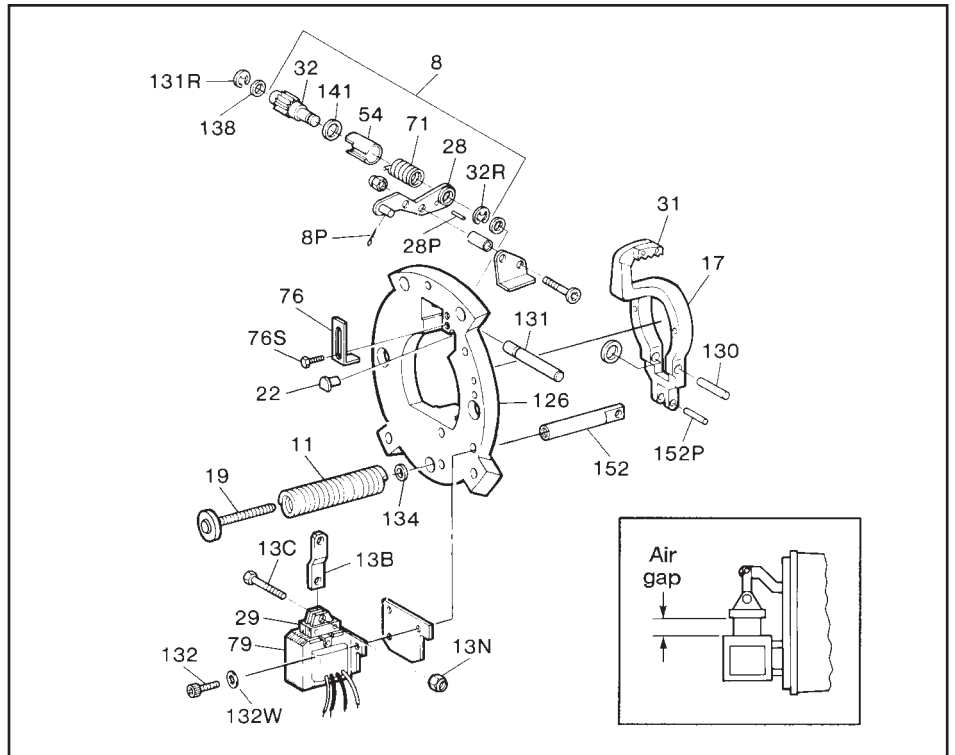

Figure 6
G. Reassemble friction discs (be sure friction discs slide freely, file I.D. if necessary), springs (if vertical), stationary discs, and pressure plate in correct sequence and position. All parts must slide freely. The universal mounting pressure plate presently used has three tapered reliefs on outboard face. However, some older brakes used a pressure plate with a single tapered relief marked *top*, which must be installed with relief in area of sector gear (31).
H. Mount support plate assembly, torque screws to 50 in-lbs in endplate. Conical spring washer installed under the screw head. Flat washer used under the conical spring washer only with aluminum support plate. Be sure that assembly is mounted with the solenoid in a vertical position (plunger above frame) as shown when brake is horizontal. If plunger is not tied down and has allowed the mechanism to overadjust, it will have to be reset before mounting support plate. In this case the lever arm (17) throat will be near, or touching, the pinion (32) teeth. Refer to Figure 6 and *Self-Adjust Maintenance*. Loosen pressure spring cap screw (19) until pressure spring (11) is free, mount support plate assembly to endplate, and retighten spring cap screw until snug. Do not overtighten! Torque to a maximum of 100 in-lbs.
(See Figure 6)